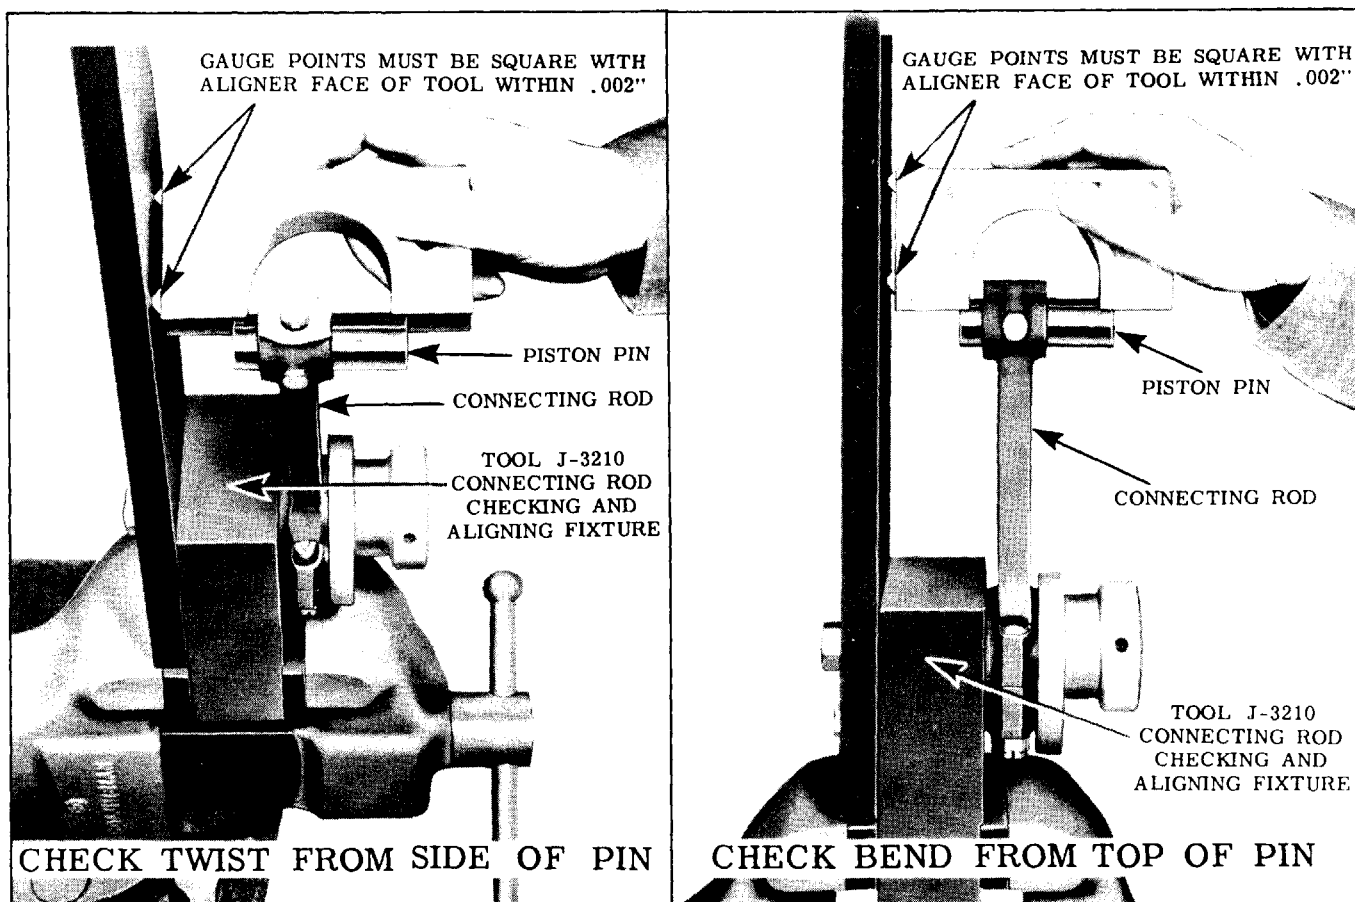

Fig. 6-58 Checking Connecting Rod Alignment
7. Check alignment of connecting rod with Connecting Rod Checking and Alignment Fixture J-3210 (Fig. 6-58). The two points on the gauge must be square with aligner face within .002" at both top and side of pin. (Gauge check at top tests for bend in rod, whereas check at side tests for twist.) If rod is not in proper alignment, it must be replaced. **CAUTION:** Do not attempt to straighten a bent or twisted rod.